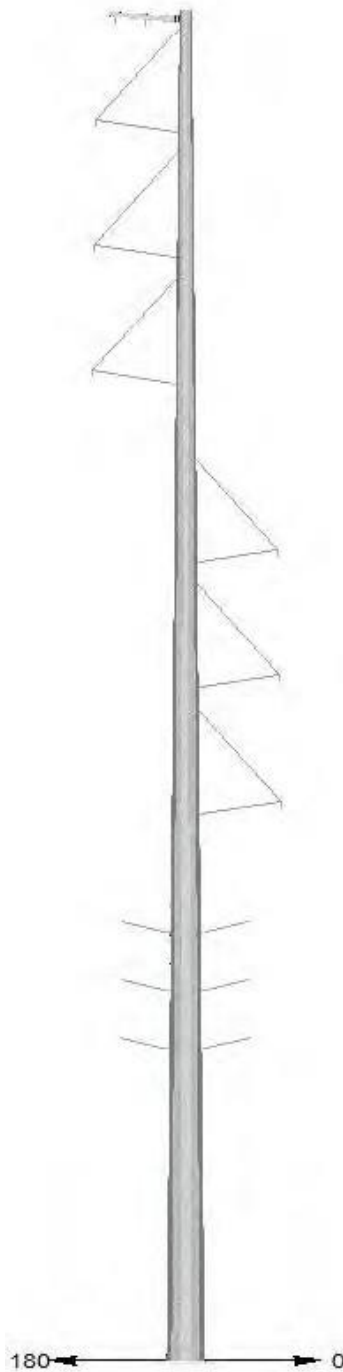

FIGURE G-22
- Figure G-22: Single-Circuit 230 kV Tubular Steel Structure (Pole) with 69 kV Underbuild, Delta Configuration with Braced Posts